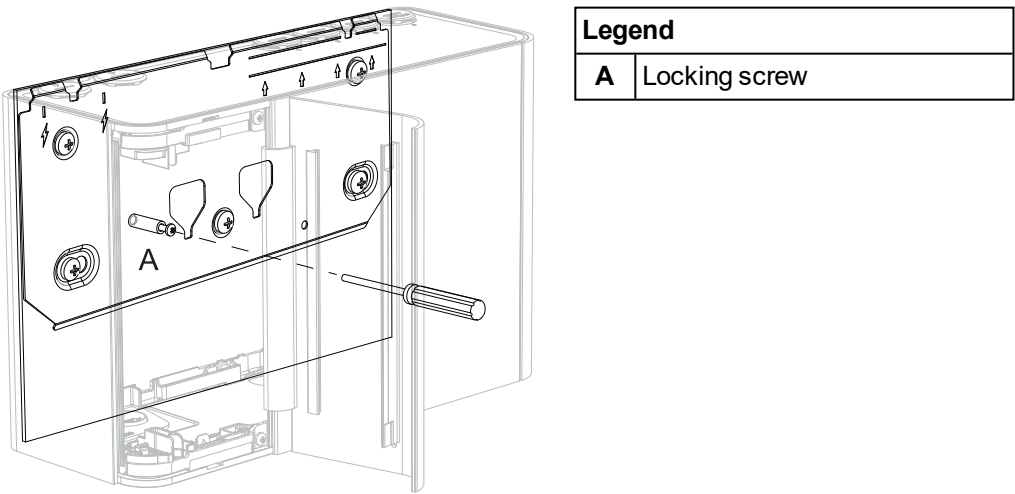

Figure 4-22: Locking Screw
7. Open the door on the front of the detector (Figure 4-22). Refer to Section 7.2 on page 73 for further information on how to open the door.
8. Insert and tighten the locking screw (A). This secures the detector to the mounting bracket.